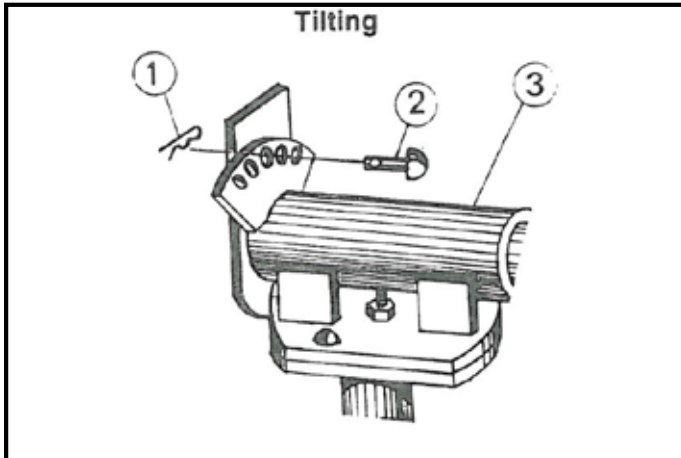

FIGURE 3
The blade may be tilted a few degrees by removing spring pin (1) and index pin (2) and rotate main frame (3) to desired angle. Replace pins (1, 2). (Figure 3)